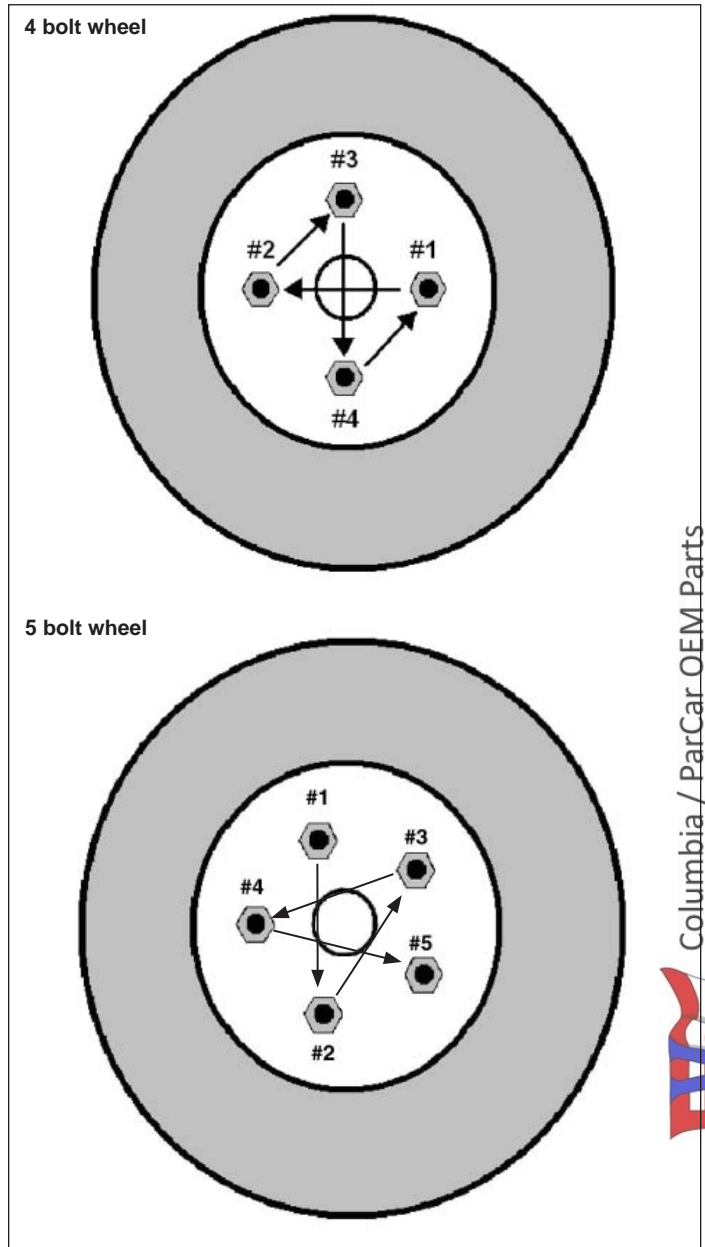

Figure 5-5. Lug Nut Tightening Pattern
5. Reinstall rear wheel/tire assembly and four lug nuts. Engage brake and tighten lug nuts in a criss-cross pattern to a maximum 65 ft. lbs. (88.1 Nm) (Figure 5-5). Repeat for other rear wheel/tire assembly. Recheck lug nut torque with vehicle on the ground.